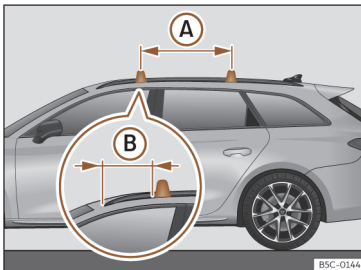

Fig. 139 Mounting points for the roof bars for the roof rack (Leon Sportstourer).
The crossbars are assembled on the roof railings >>> **Fig. 139**. The distance between cross bars (A) should be approx. 75 cm and the distance between the front bars and the front bracket of the side roof bar (B) should be 30 cm.